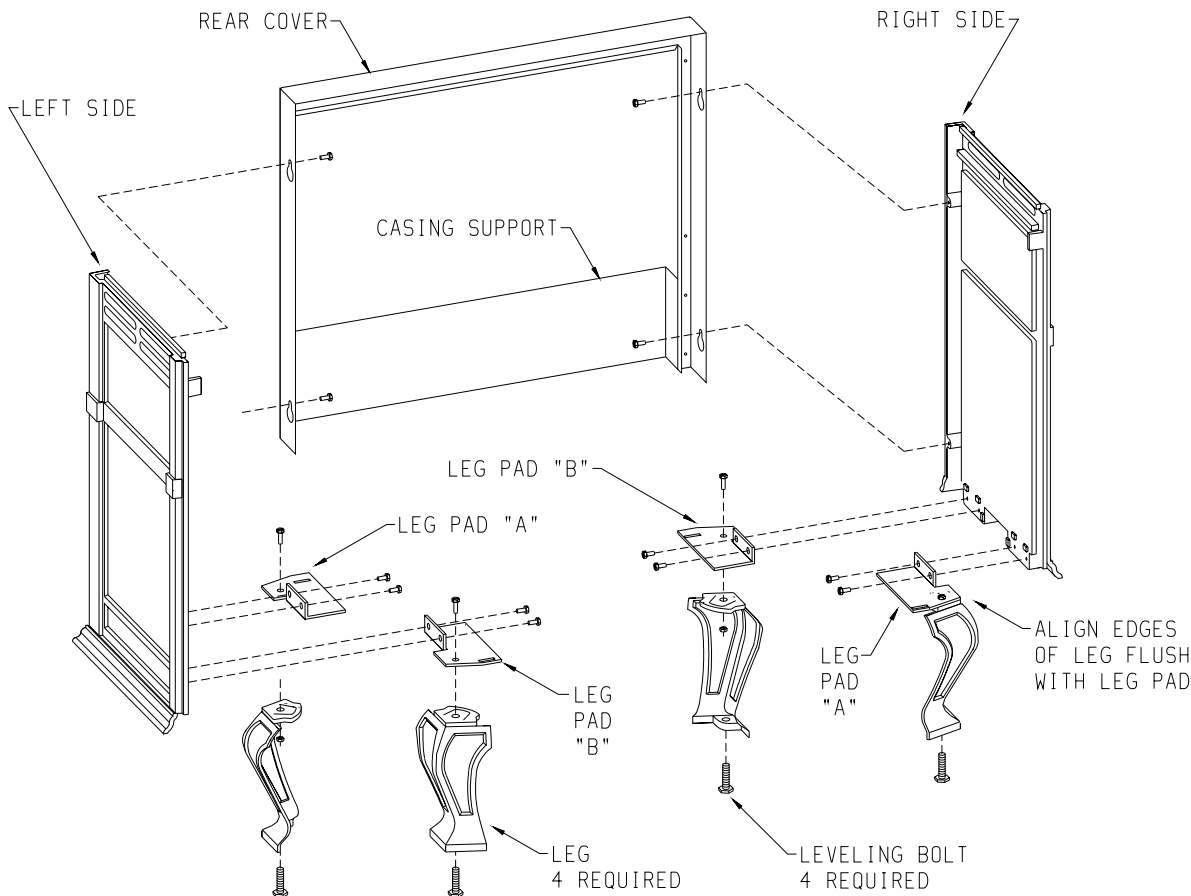

Figure 7
Assembly of Cast Iron (Outer Casing) Stove Casting (Figures 7, 8, 9, 10, 11 and 12)
- A. Attaching legs to the sides (Figure 7).
3. Refer to Figure 7, the leg pads will have the letter "A" and "B" stamped into the metal. Place leg pad "A" and leg pad "B" at the bottom of each casing side. Leg pad "A" attaches to the front of the casing side, right and to the rear of the casing side, left. Leg pad "B" attaches to the rear of the casing side, right and to the front of the casing side, left. Position the 3/4" flange on the leg pad against the (2) locator dimples on the casing side. The 3/4" flange must be facing upward, toward the top louver openings on the casing side. Attach the two **rear** leg pads to the casing sides with (2) 3/8" bolts. Attach but do not completely tighten the two **front** leg pads to the casing sides with (2) 3/8" bolts. **Attention:** The front leg pads can be adjusted to provide a snug fit between the casing front and the casing sides.
4. Attach (4) leveling bolts to the bottom of the (4) legs.
5. Align the 3/8" hole at the top of the leg with the 3/8" hole in the leg pad. **Attention:** For proper positioning of the leg to the leg pad the (2) 1-1/2" top edges of the leg must be placed flush and parallel to the (2) edges on the leg pad. Attach leg to leg pad by inserting (1) 1" bolt through the leg pad and into the leg, secure bolt with 1/4" nut.
6. Insert (2) 3/8" bolts into the (2) holes on the edges of the casing sides. The bolts should only be threaded half-way into the holes in order to allow for clearance when the casing back is attached to the casing sides.